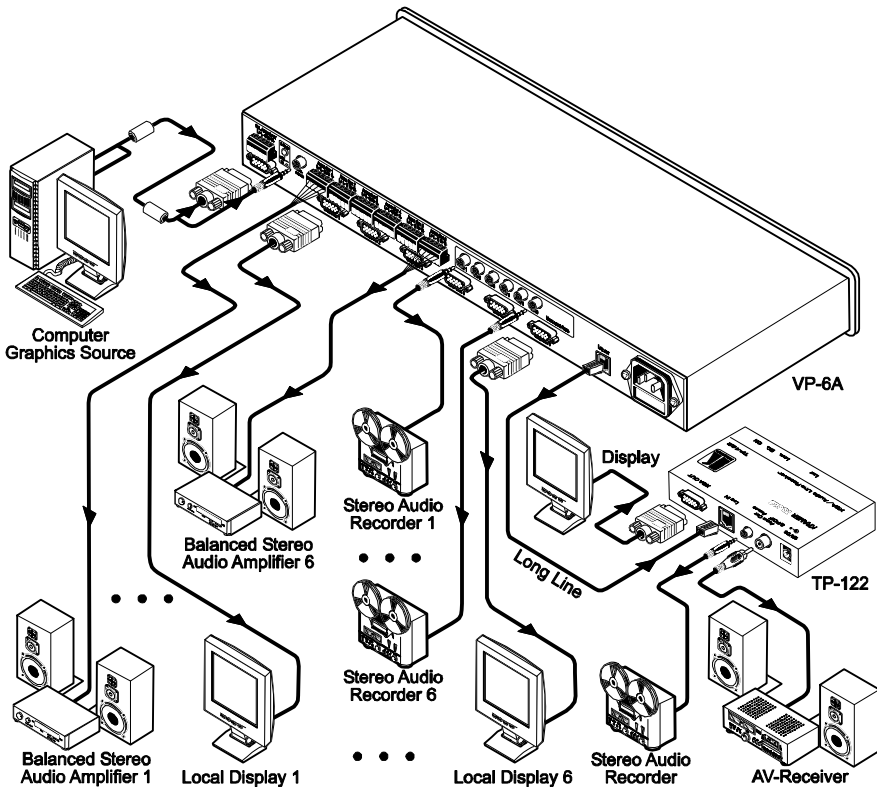

Figure 3: Connecting the VP-6A
The example in Figure 3 illustrates how to output a computer graphics signal (and audio) from a computer to up to six local monitors, as well as how to transmit it over UTP cabling to a **TP-122 XGA / Audio Line Receiver**.
5. Connect the power cord⁸ to the **VP-6A** (not illustrated in Figure 3).